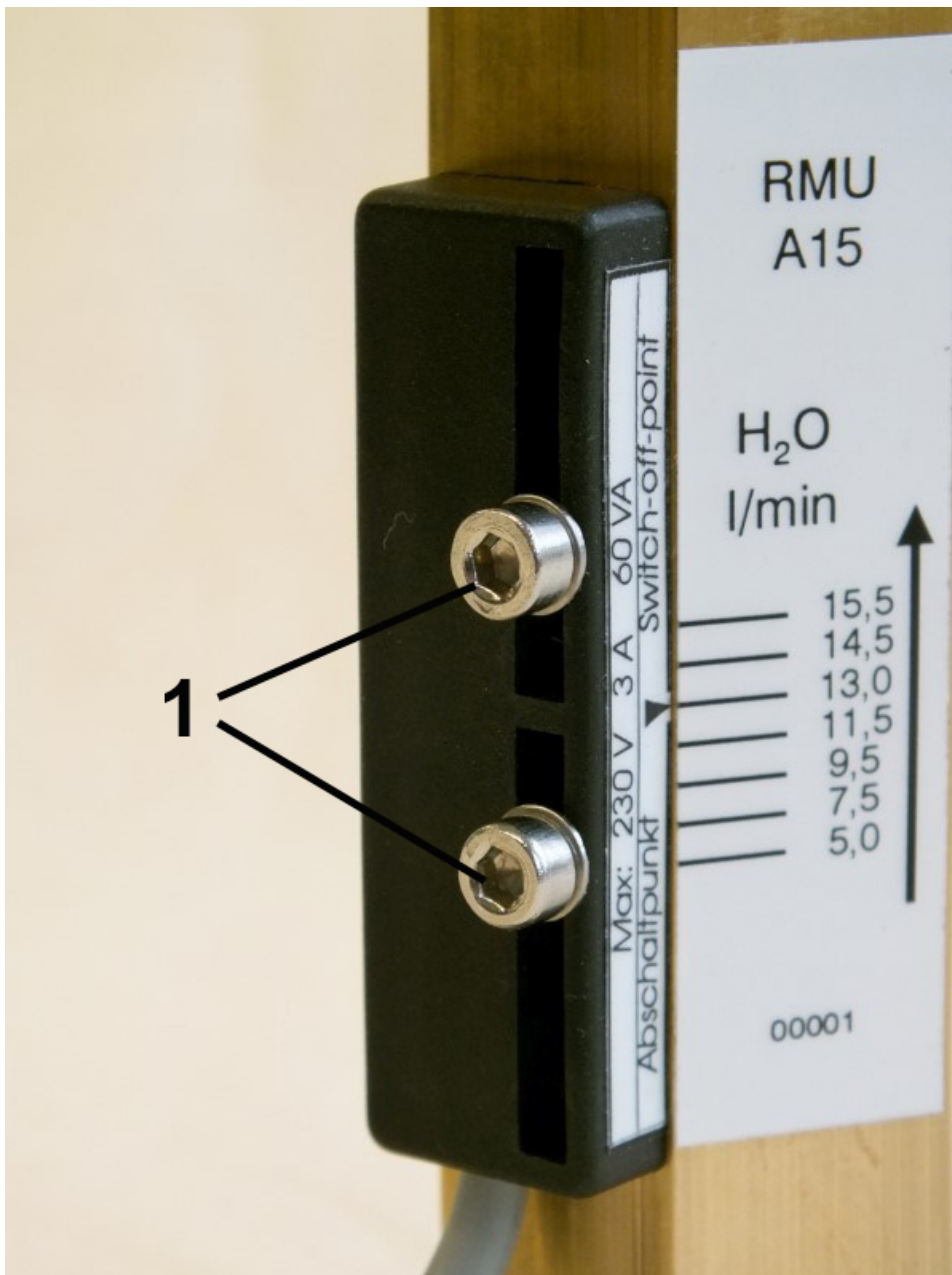

Fig. 19: Loosen set screws (example switch point adjustment scale)
1. Loosen the set screws of the switch contact (Fig. 19/1) using a hex screwdriver.
3. Tighten the set screws of the switch contact (Fig. 19/1) using a hex screwdriver. When doing so, observe the correct tightening torque of the screws.